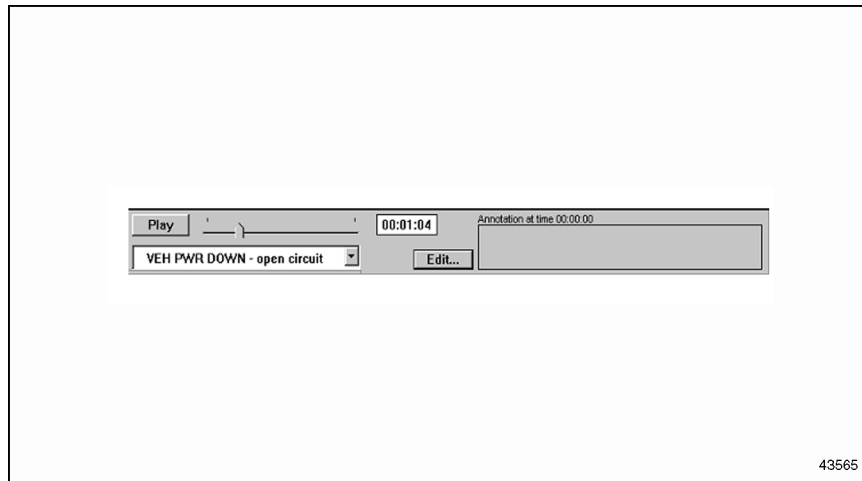

Figure 18-13 **Replay Control Window**
When you have opened a snapshot, replay controls will appear at the bottom of the DDDL window you opened. See Figure 18-13.
1. Start the replay of a snapshot by clicking on “Play.” See Figure 18-13. The play button changes to “Pause” when a snapshot is replaying. While the snapshot is replaying, the replay slider next to the Play/Pause button moves showing the progress of the replay, and the time box next to it shows the time since the beginning of the recording. When you click on “Play” the snapshot begins to play from its current position and the instruments show the appropriate readings. The event window also changes during the replay to show the most recent event.